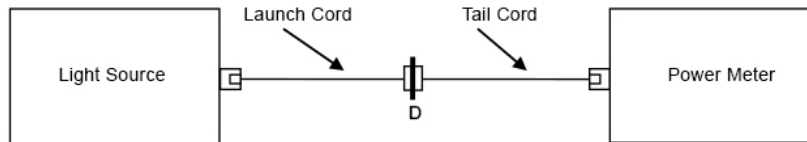

Figure 5. Set the reference
a. Set a reference between the light source and power meter using the launch and tail cord (see Figure 5).